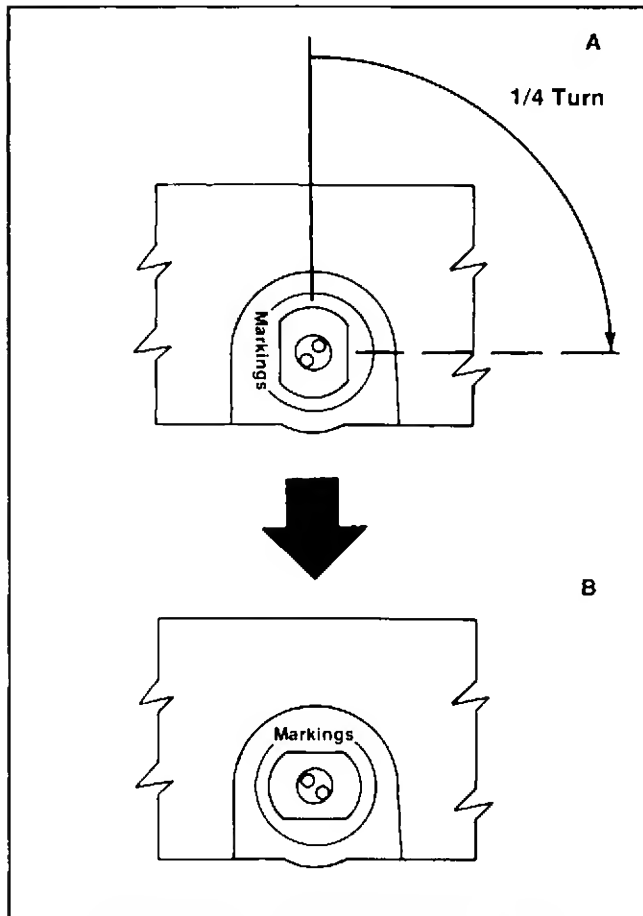

Figure 8-16. Float Switch Installation.
- B. Turn the switch clockwise 1/4 TURN. STOP turning switch when flat surface is in a horizontal position. (Flat surface parallel with base of oil pan and N.C./N.O. markings up.) Refer to Figure 8-16.